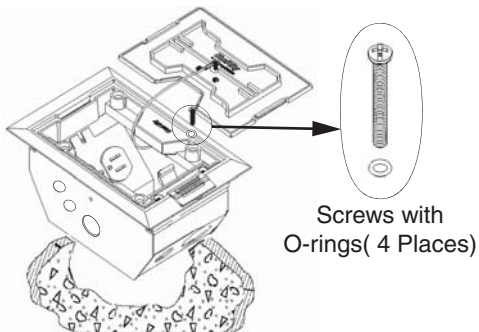

Figure 4
- 3) Lift Lid and lay to the side. Insert screws complete with O-rings through Cover into threaded holes in Metal Floor Box. Turn screws until heads and O-rings make contact with the Cover. To secure, tighten screws 1-1/2 turns. (See Figure 4).